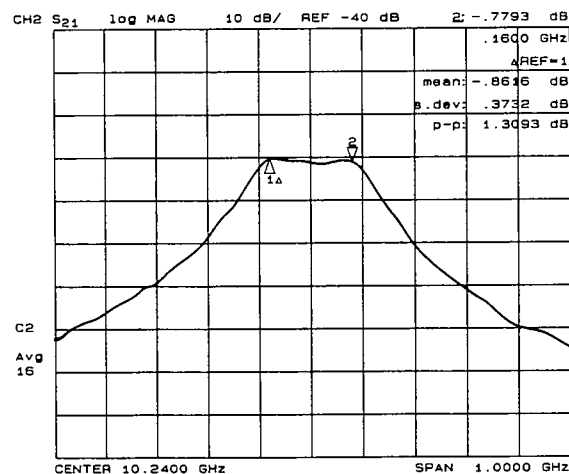

Figure 6-11. Measurement Using Marker Statistics
**[STATS on OFF]** (MEASTAT) calculates and displays the mean, standard deviation, and peak-to-peak values of the section of the displayed trace between the active marker and the delta reference marker. If there is no delta reference, the statistics are calculated for the entire trace. A convenient use of this feature is to find the peak-to-peak value of passband ripple without searching separately for the maximum and minimum values. The *User's Guide* provides an example of such a measurement, illustrated here in Figure 6-11.